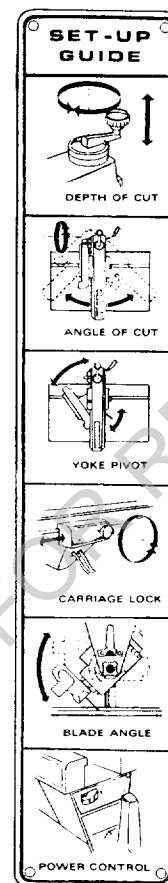
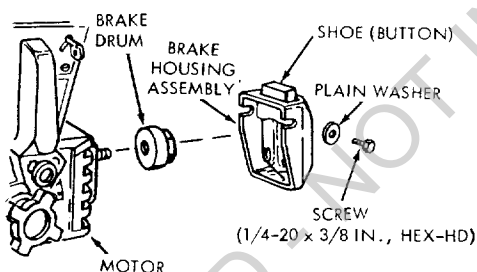

Figure 30
Figure 34
A series of six diagrams are located on the top surface of radial arm in order to designate the controls that must be used in basic "set-ups" and operating procedures. (See figure 30.) The inexperienced operator should become familiar with this set-up guide before operating the saw.
1. **"Depth of Cut".** The diagram shows the elevation crank (5, figure 30) which is used to raise and lower the blade. One complete turn of this handle will raise or lower the radial arm 1/8 inch.
2. **"Angle of Cut".** Two levers are involved in releasing, securing and indexing the angle of radial arm. These are: arm lock handle (7, figure 30) and arm latch handle (4, figure 30). The arm is unlocked by loosening the arm lock handle (7, figure 30) and pushing the arm latch handle out of the detent notch. It is locked by tightening the arm lock handle. The radial arm has positive index stops at 0° and 45°, left and right, and is released from these index positions by pushing the arm latch handle. In order to provide the most positive and accurate settings at the index positions, the following is recommended:
3. **"Carriage Pivot".** Two controls are used in this operation. They are: swivel index knob (2, figure 30) and yoke clamp handle (1, figure 30). The swivel index knob automatically indexes the yoke at each 90° position and both 0° positions. Lift the knob to release it. The yoke clamp handle locks the yoke to the carriage in any position. Push the handle to the right to release it; push to the left to tighten it.
4. **"Carriage Lock".** The carriage lock knob (3, figure 30) is rotated clockwise to prevent movement of the carriage on the radial arm, and counterclockwise to release it. Avoid excessive tightening of this knob.
5. **"Blade Angle".** The two controls used in angular positioning and indexing of the motor to provide the desired saw blade angle are: bevel lock knob (11, figure 30) and bevel index knob (10, figure 30). The bevel index scale indicates the angular position of the motor with respect to the horizontal position, from 0° to 90°, in either vertical position. The swivel index knob indexes the motor at 0°, 45°, and 90°, up and down. Pull the knob out to release the motor from any of the index positions. At any other position, the swivel index knob is not engaged. The bevel lock knob locks the motor to yoke when the motor is any position.
6. "Power Switch and Key". This ON-OFF switch (12, figure 30) is located in the upper left-hand area of the carriage and is a red colored lever.
(1) The manual brake (8, figure 30) is located on the motor shaft at the right-hand end of motor.
(2) Pressing on the brake button with finger or thumb, after turning off the ON-OFF switch, will greatly reduce blade coasting time.
**NOTE:** When using an accessory, such as a drill chuck attached to end of motor shaft, it will be necessary to remove the brake housing assembly and brake drum. (See figure 34.) Be sure to re-install the brake after removing the accessory.
3. The arm lock handle (7, figure 30) must be tight.